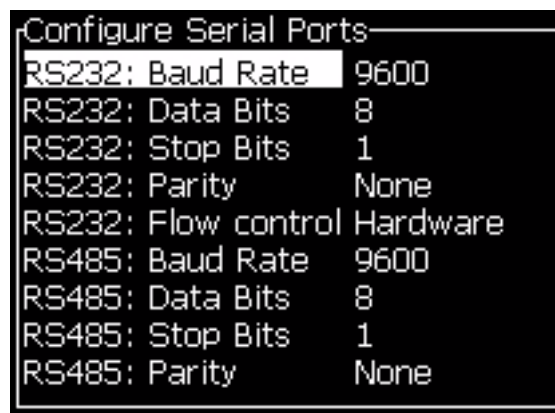

Figure 4-20: Configure Serial Ports Dialog Box
- 2 Select *Serial Port Configuration* option, and press the *Enter* key. The *Configure Serial Ports* dialog box appears (see Figure 4-20).